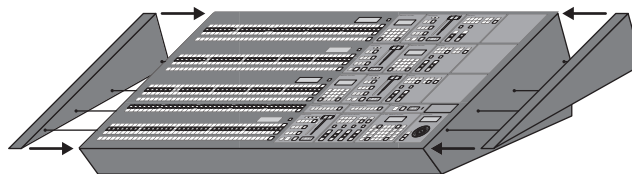

Figure 3.6 Installing the Mounting Brackets
2. If the mounting brackets are not already installed, install the mounting brackets onto the control panel (**Figure 3.6**) using the provided screws.